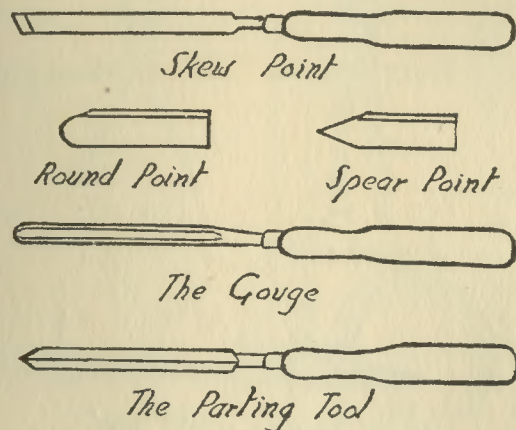

FIG. 36. A SET OF WOOD TURNING TOOLS
point, (2) the round point, (3) the square point, and (4) the spear point, and all of these are shown in Fig. 36.
$\frac{3}{4}$ -inch sizes. These latter tools are also shown in Fig. 36. You can buy turning tools of the makers of lathes, or of Hammacher, Schlemmer and Co., Fourth Ave., and 13th Street, New York City.